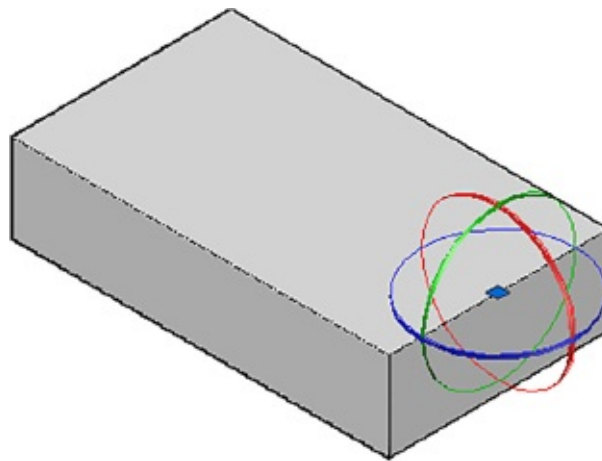

FIGURE 21.70 The Rotate gizmo
2. Select the object or objects that you want to rotate and then press ↵. The Rotate gizmo appears on the object (see Figure 21.70).